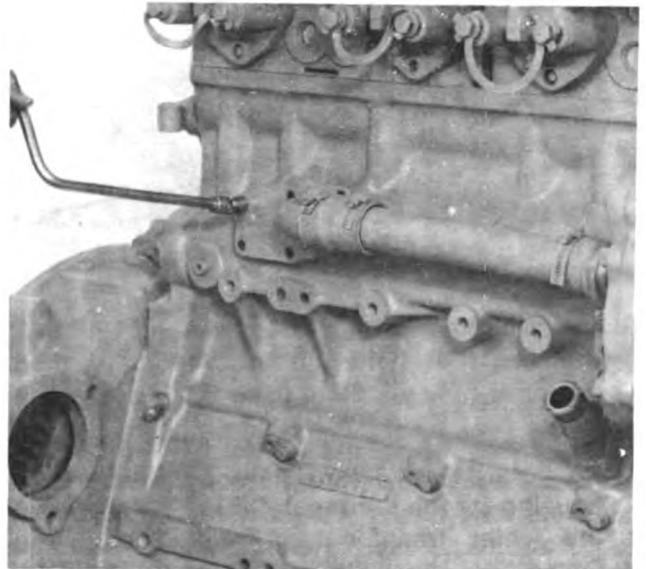

Fig. 0-11. Remove The Capscrews Holding The Water Connection.
1. Remove the capscrews holding the water connection to the cylinder block, Fig. 0-11.